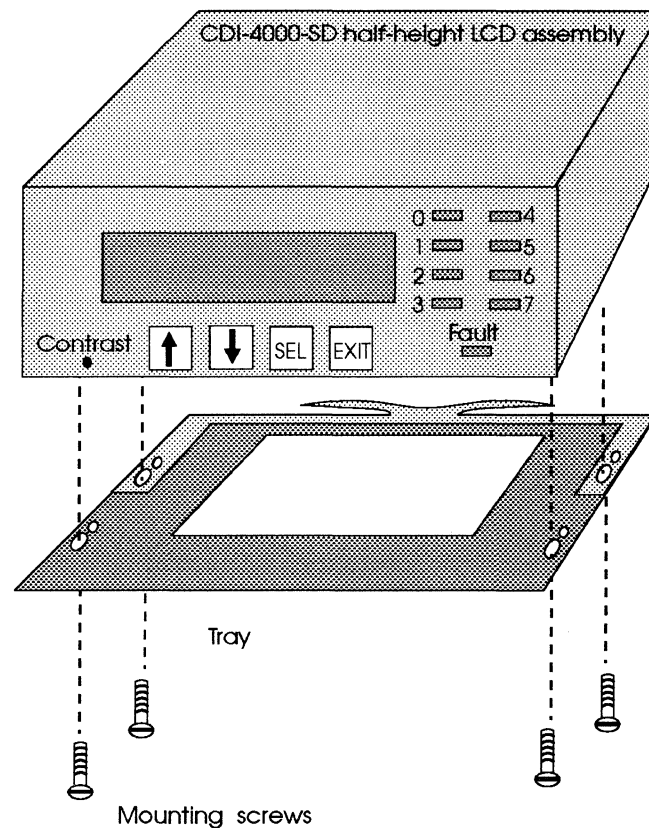

Figure 7-8: Mounting the CDI-4000
- 4 Mount the half-height LCD assembly onto the tower tray. The mounting holes closer to the front make the half-height LCD assembly flush to the front of the chassis; see Figure 7-8.
- 4 Mount the half-height LCD assembly on the DA40 or DA60 tray. The mounting holes closer to the front make the half-height LCD assembly flush to the front of the chassis; see Figure 7-8.